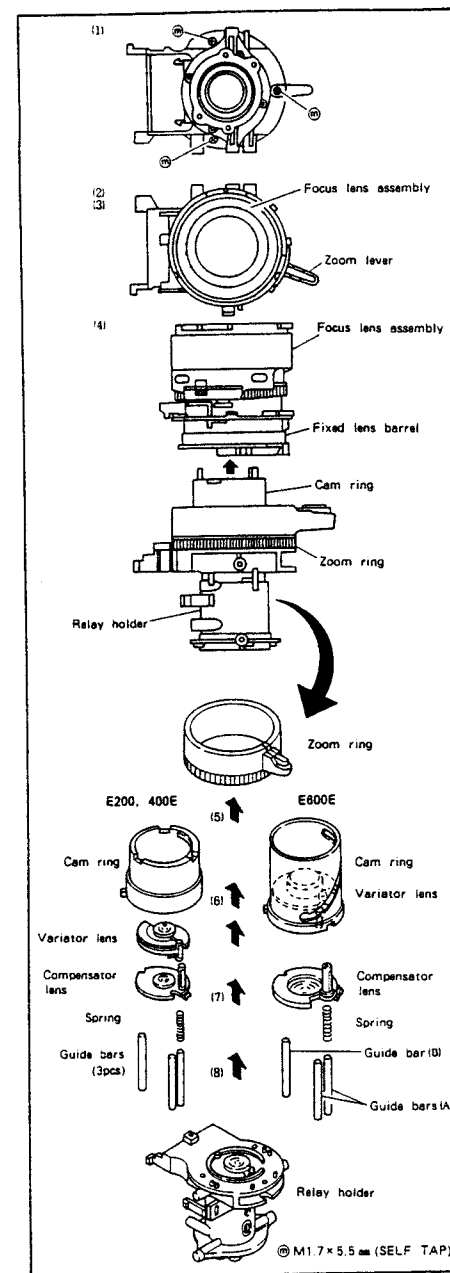

Fig. II-24
- (1) Remove three screw ⑨'s.
- (2) While steadying the zoom section, turn the focus lens assembly up.
- (3) Set the zoom lever on the position as shown in the Fig. II-24.
- (4) While steadying the zoom ring, dismount the focus lens assembly and the fixed lens barrel upward.
- (5) Remove the zoom ring.
- (6) Remove the cam ring.
- (7) Remove the variator and the compensator lenses.
- (8) Remove the spring and three guide bars. (E200, 400E only)
- (9) Remove the spring and guide bars (A) x 2, (B) x 1. (E600E only)